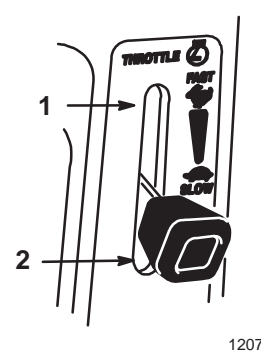

Figure 5
5. Move throttle lever to “FAST” (Fig. 5).
7. After the engine starts, move the choke lever to “OFF” (Fig. 5). If the engine stalls or hesitates, move the choke lever back to “ON” for a few seconds. Then move the throttle lever to desired setting. Repeat this as required.
1. Move the throttle lever to “SLOW” (Fig. 5).